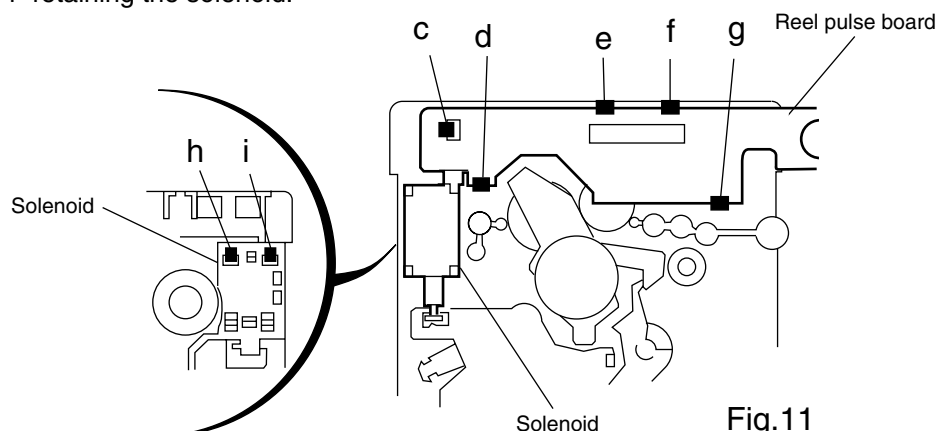

Fig.11
■ Removing the reel pulse board and solenoid (See Fig. 11)